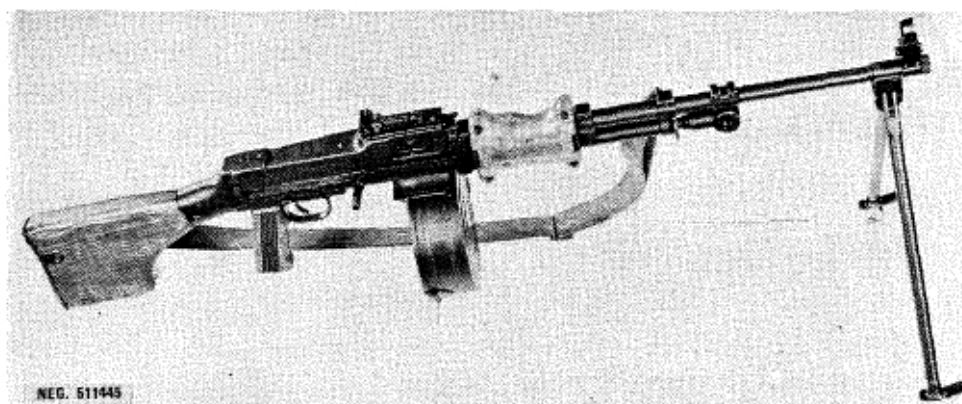

Figure 146. Typical RPD squad light machinegun.
a. The Degtyarev-designed Soviet RPD squad light machinegun (fig 146) now obsolete in the Soviet Army, is still